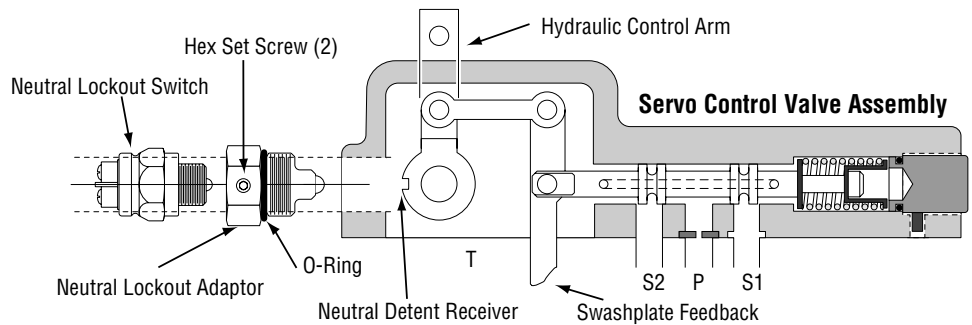

Figure 1-1
2. With the adaptor installed, proceed and install the neutral lockout switch into the adapter, again refer to figure 1-1.
1. With the switch removed from the adapter, install the adapter into the control assembly, refer to figure 1-1. Torque the adapter to 60-72 N-m (44-53 lbf-ft).